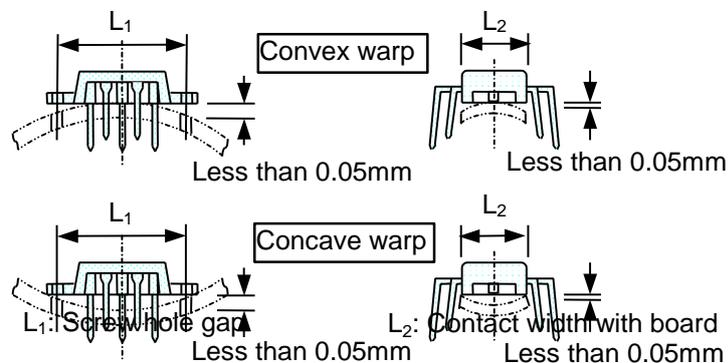

Fig. 10 Heat sink warping:
- (a) To avoid a heat sink causing convex or concave warping, keep the warp between screw holes less than 0.05mm (Fig. 10). Also, twist to a maximum of 0.05mm .